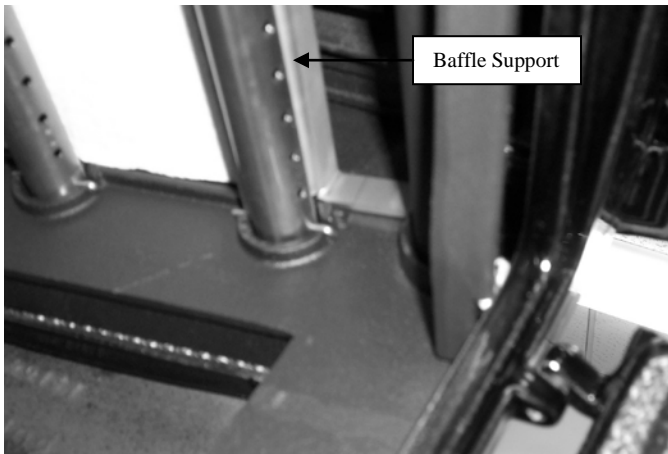

Figure 3
- 4) Pull the **SS Baffle Support** down to rest on the burner tube. The ceramic board should come to rest on the support and tubes as well. If it does not, gently pull it down (see figure 3 for the proper placement when installed).